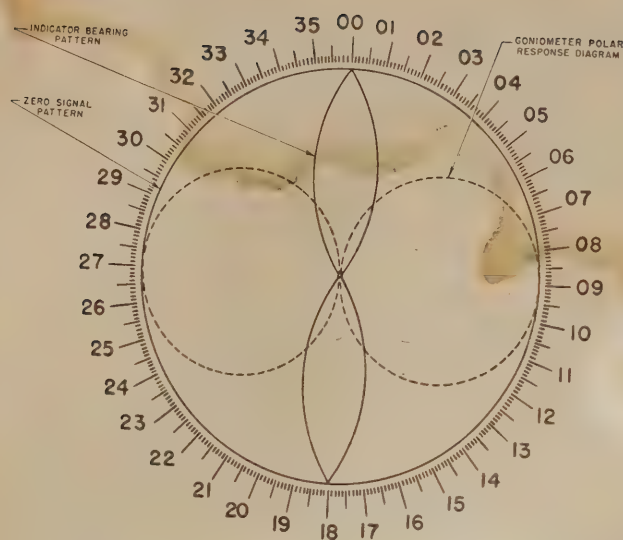
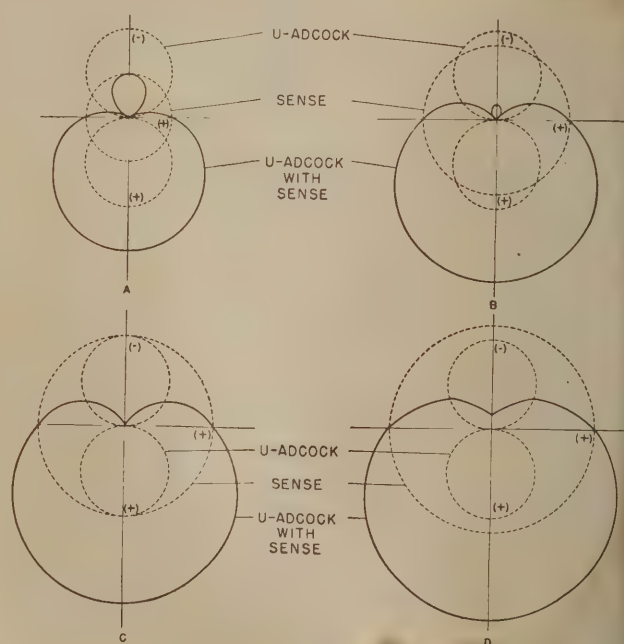
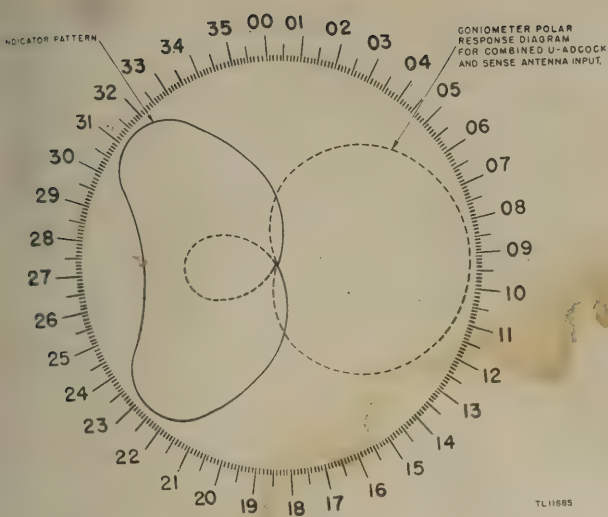

Figure 137. Zero signal and bearing patterns on scope screen.
Figure 138. Development of typical sense patterns.
Figure 139. Sense signal through D/F coils places indicator pattern in wrong position.
time that it is moving around the center of the screen. With no signal input, then, the spot traces a circle; with signal input the spot traces the directional pattern on the screen (fig. 137). The broken-line figure 8 pattern does not appear on the scope screen; it is the polar diagram of the goniometer output when a signal is received from the north. It is also the pattern of a single U-Adcock antenna rotated to the proper position for a null reading on a signal from the north. Note that the bearing indicator pattern marks the direction of the null points in the figure 8 pattern. Thus, by the use of a stationary crossed U-Adcock antenna array and a rotating goniometer, the equivalent of rotating a single U-Adcock antenna is attained.
*a. COMBINED U-ADCOCK AND SENSE OUTPUT.* The bearing indicator pattern of figure 137 is ambiguous, for the operator cannot tell whether the signal is arriving from the north or from the south. To eliminate the ambiguity, the output of a single vertical (sense) antenna is combined with that of the U-Adcock directional antennas (fig. 138). Because of the phase shift (polarity reversal, par. 144) at the null points of the figure 8 pattern, one of its circles is assigned a plus sign, the other a minus sign. The sense antenna output is fed to *two* transmission lines
*b. POSITION OF SENSE PATTERN.* As shown in figure 138, the U-Adcock with sense polar diagram is at right angles to the line through the null point of the U-Adcock diagram. Thus, if the deflection amplifier output were applied to
the D/F set of deflection coils, the sense indicator pattern (fig. 139) would be at right angles to the D/F pattern (fig. 137) and would be unsuitable for determining the correct azimuth reading. Whenever the STAND-BY - D.F. - SENSE switch is held in the SENSE position, the deflection amplifier output is automatically disconnected from the D/F deflection coils and applied to a separate set of sense deflection coils.